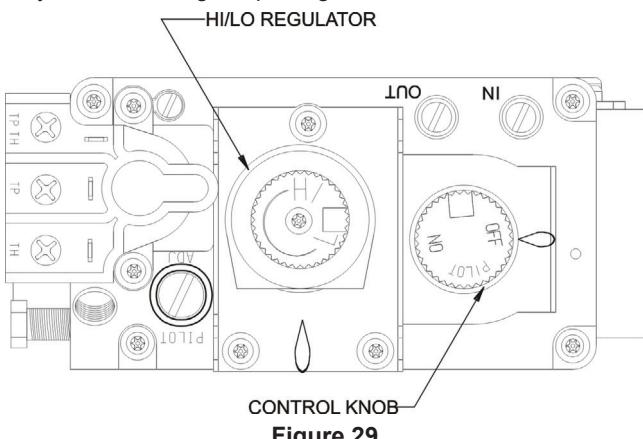

Figure 29
**NOTICE:** The gas control valve allows you to increase or decrease the height of the main burner flame. The control valve has a pressure regulator with a knob as shown in **Figure 29**. Rotate the knob clockwise to “HI” to increase the flame height and counterclockwise to “LO” to decrease the flame height.